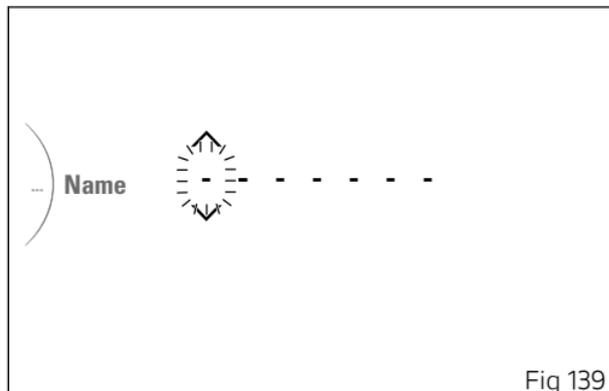

Fig 139
Select the "Edit Name" option and press ENTER button (3) to enable circuit name editing (Fig 139). It is possible to use up to a maximum of 7 characters. Use buttons (1) and (2) to scroll through the available characters, press ENTER button (3) to confirm and set the following one.